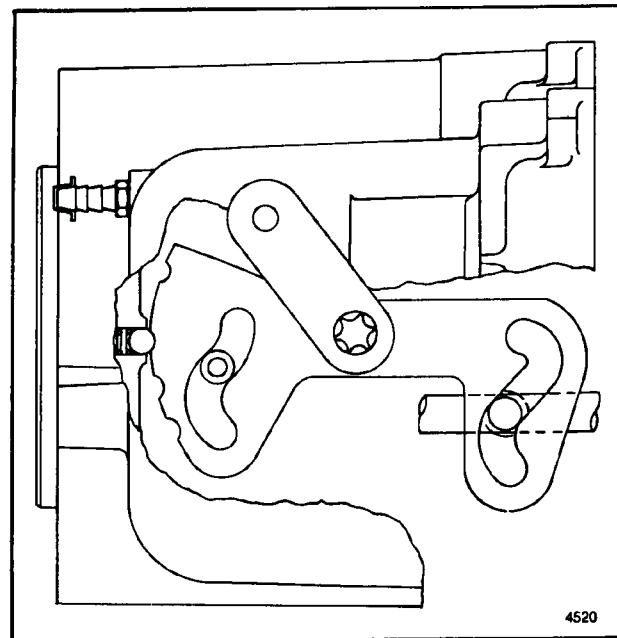

Figure 5-10. Shift Lever Assembly in Neutral Position
1. Input shaft (63) must go through thrust washer (74) and bushing in transfer case assembly (86).
2. End of lockup rail (54) must enter hole in transfer case assembly (86).
3. Cam roller (50) must rest in cradle provided in transfer case assembly (86).
c. Install o-ring (48) in groove in shaft of shift lever assembly (47).
d. Holding shift lever assembly (47) in neutral position (see figure 5-10) insert through transfer case assembly (86) and splines of shift cam (51). Install klip ring (45) in groove in shift lever assembly to retain it in shift cam.
e. Apply Loctite 242 to threads of setscrew (46) and install in transfer case assembly (86). Torque setscrew to 5.0- 7.0 lb-ft (6.8-9.5 Nm)